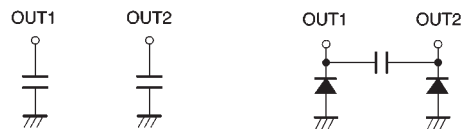

Fig.11
(13) The input and POWER SAVE pins have temperature-dependent characteristics. Take the temperature effect into consideration when using the IC.
(14) To eliminate motor noise, connect a capacitor between OUT1 and GND and between OUT2 and GND. Alternatively, connect a capacitor between OUT1 and OUT2, and also a diode between OUT1 and GND and between OUT2 and GND (see Fig. 11).